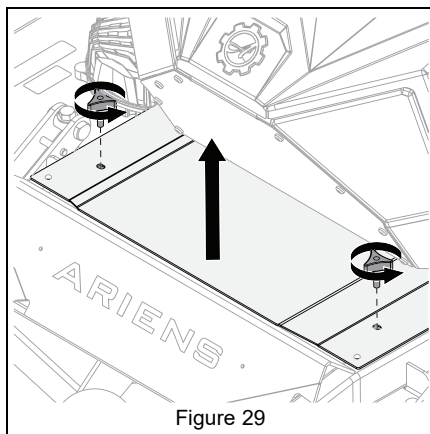

Figure 29
5. Remove access panel. See Figure 29.